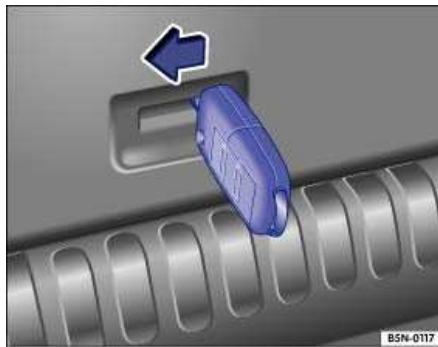

Fig. 37 Emergency opening of the rear hatch.
- Insert the key bit at the outer edge in the opening in the rear hatch trim ⇒ Fig. 37.
- Push the remote control key in the direction of the arrow ⇒ Fig. 37 to unlock the rear hatch.